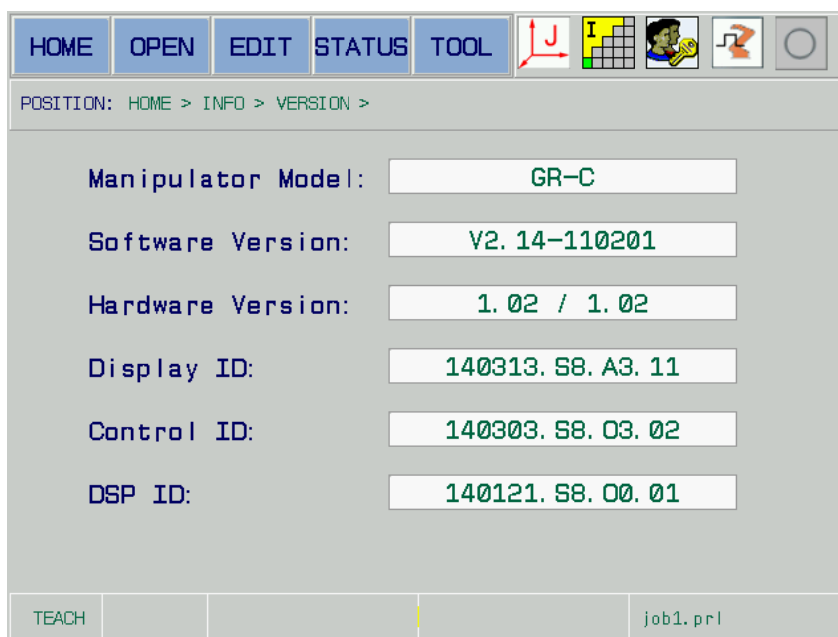

Fig. 7-20
2. Open version information display window by the [SELECT]; refer to the Fig. 7-20.